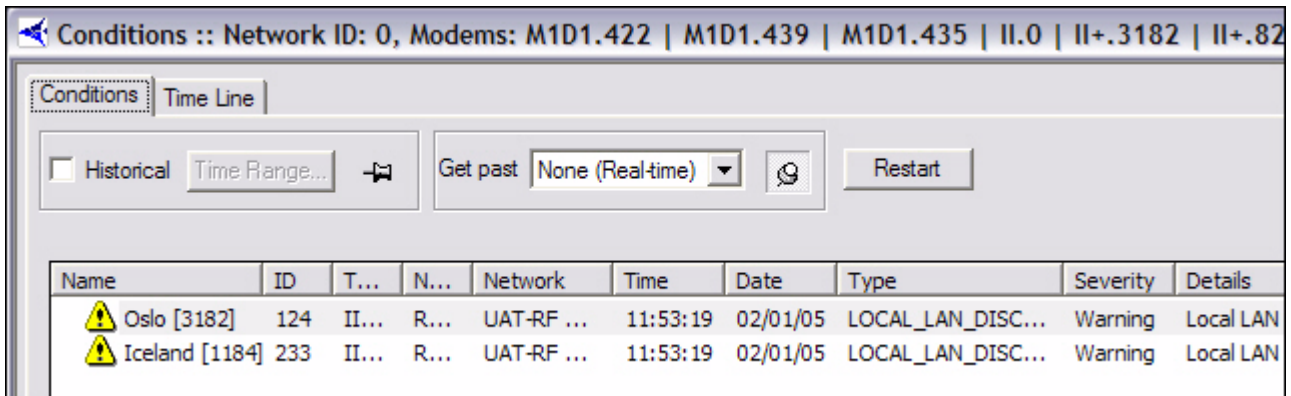

Figure 3-3: Conditions Results in Multicolumn Format
- Step 7 **Conditions.** If you are retrieving data on conditions, the **Conditions/Time Line** pane appears, displaying the conditions logged for the specified period. This data is displayed in a multicolumn format. See Figure 3-3 for an example of data displayed on the **Conditions** tab.
Step 10 **Events.** If you are retrieving data on events, the **Events** pane appears, displaying the events logged for the specified period. This data is displayed in a multicolumn format only. It cannot be viewed in graphical format. See Figure 3-3 for an example of data displayed on the **Events** tab.